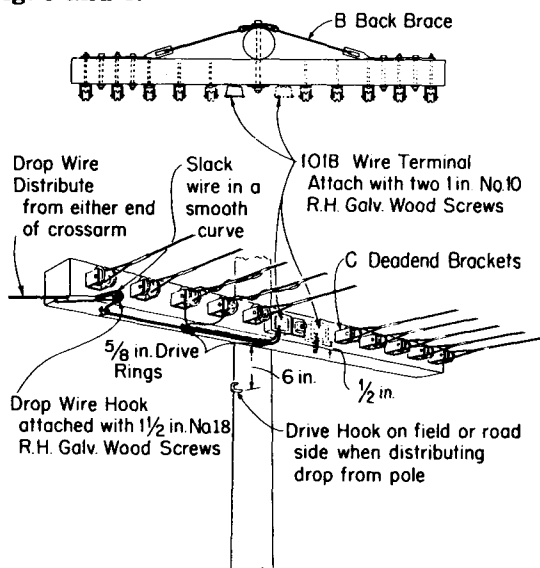

Fig. 5 – For Not More than Two Drops Use 101B Wire Terminals Placed on Line Wire Side of Crossarm
4.12 The wiring arrangement on DE crossarms equipped with back braces is illustrated in Fig. 5 and 6.